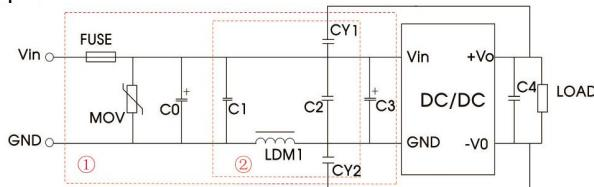

Fig. 7
Notes: Part ① in the Fig. 7 is used for EMC test and part ② for EMI test